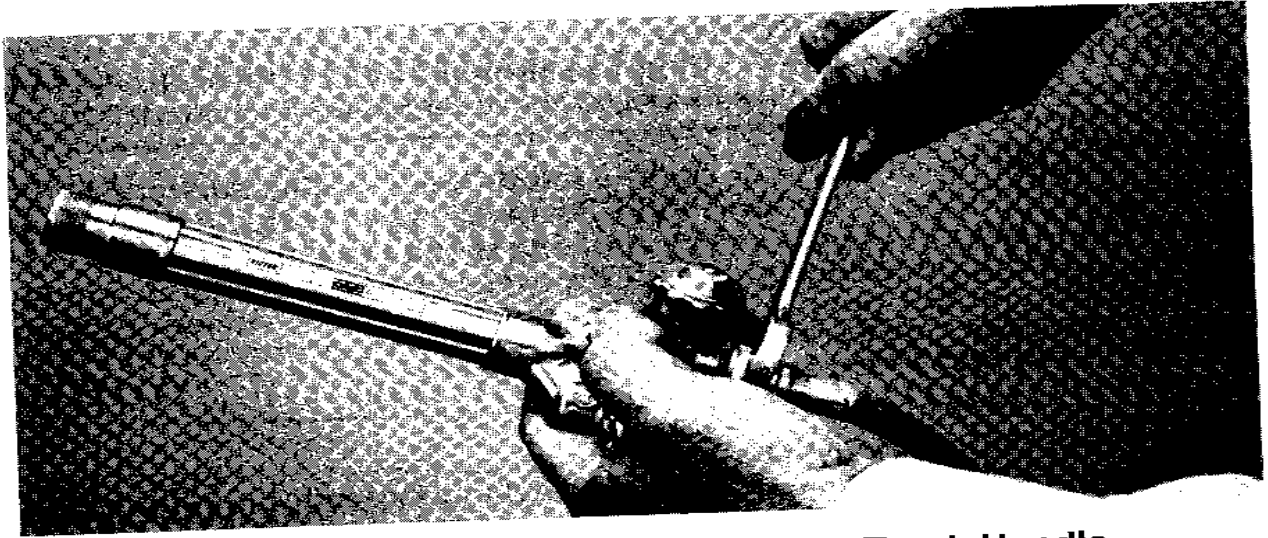

Figure 14, Connecting the Hose to the Torch Handle
6. Attach the welding hose to the torch handle or reverse flow check valves. Tighten securely (see Figure 14).